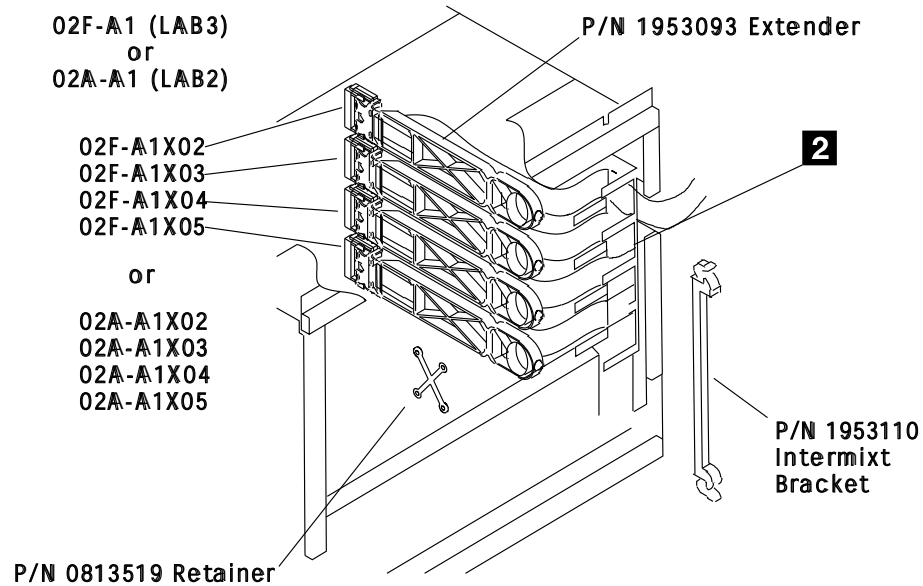

Figure 4-24. Line Adapter IOC Bus Cable Routing in the 3746-A11
Cables run across the bottom and in the right front of the 02F-A1 board or 02A-A1 if no LAB3, see Figure 4-24 on page 4-25. Fold the cables according to the **black** fold marks.
- Step 5. ____ Plug the IOC cables **2** into their respective sockets 02F-A1 X02 to X05 or 02A-A1 X02 to X05 if no LAB3. Secure the cable extenders using an intermix bracket (PN 1953110), and secure them in the raceway using cross retainers (PN 0813519) (See Figure 4-24 on page 4-25.)